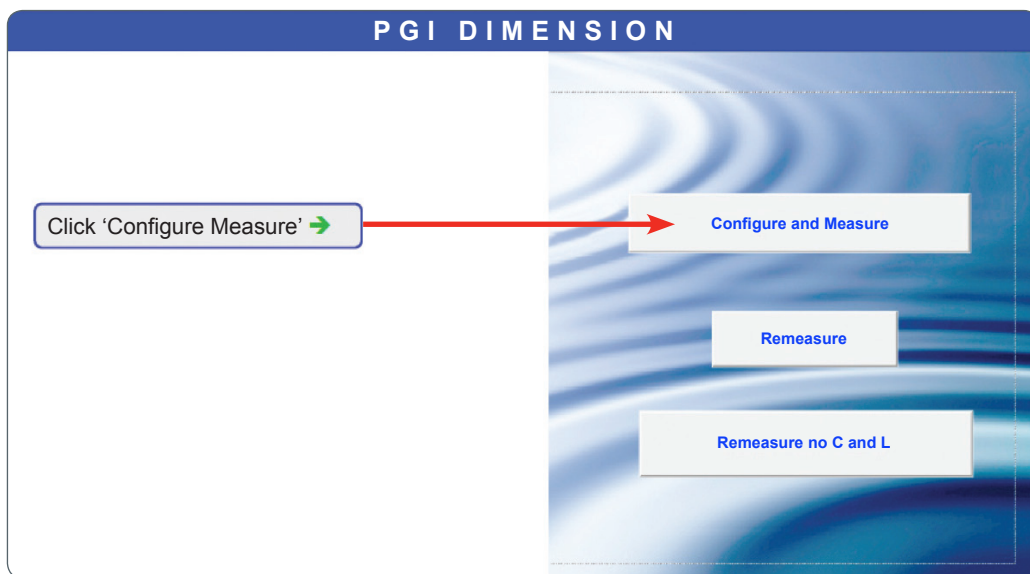

Figure 2: 'Configure and Measure' button in the production interface
- 1 In the production Interface click on the Configure Measure icon (see Figure 2).